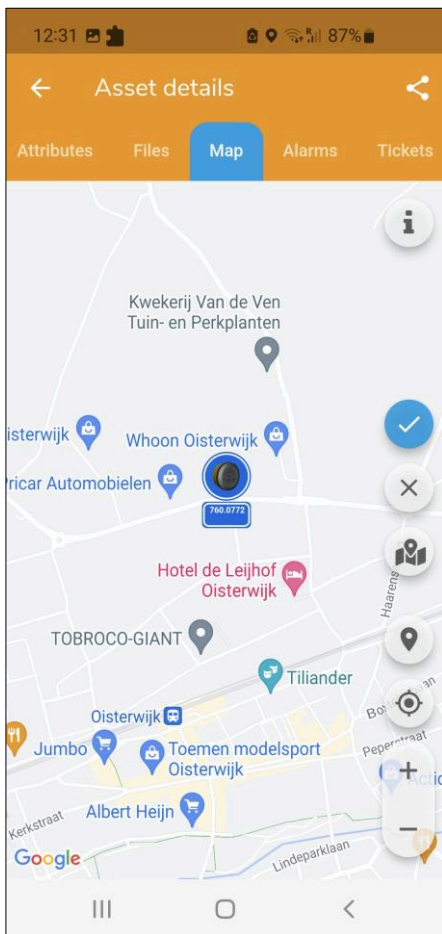

Figure 7-1: Insight app - map
Insight app: navigate to 'Map' (see Figure 7-1) to see the device's location.
1. App: navigate to Map (see Figure 7-1) to see the device's location.